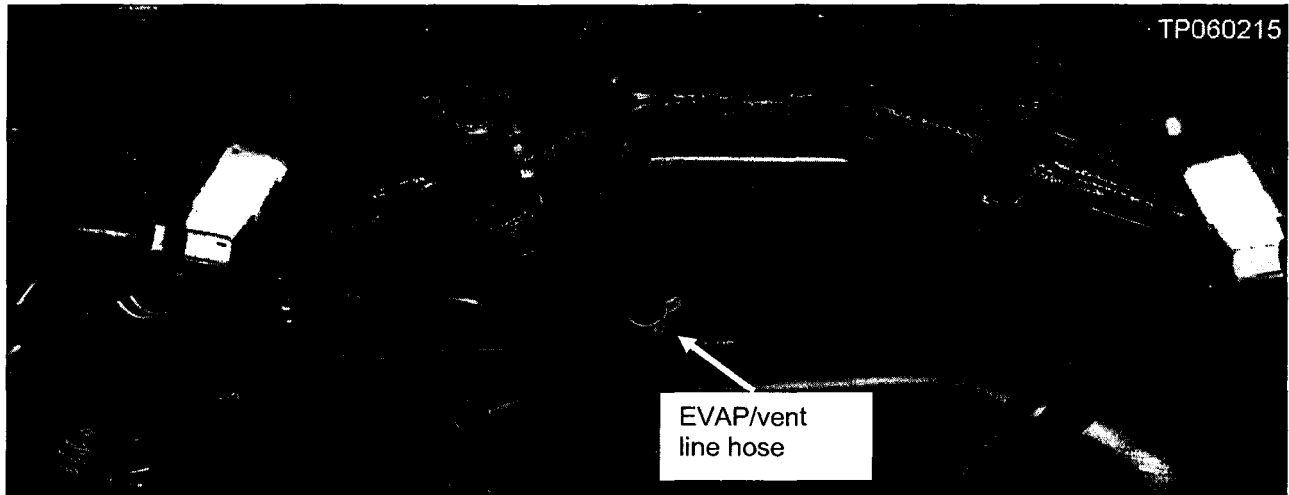

Figure 57
11. Carefully lower the fuel tank just enough to disconnect the EVAP/vent line hose shown in Figure 57.
- Disconnect the hose from the fuel tank at the point shown in Figure 57.